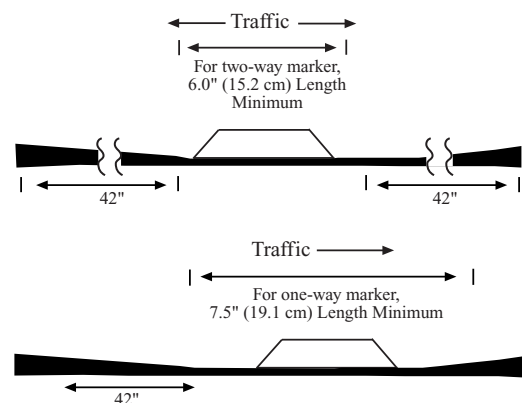

Figure 4: Lengths of flat surfaces at the bottom of the recessed grooves for marker applications.
4. Application surface - The marker application area of the groove must have a smooth/flat surface that is a minimum of 6 inches (15.2cm) long for a one-way application and a minimum of 7.5 inches (19.1 cm) for a two-way application (Figure 4). If a coarse tooth pattern is present, increase the number of blades and decrease the number of spacers on the cutting head.